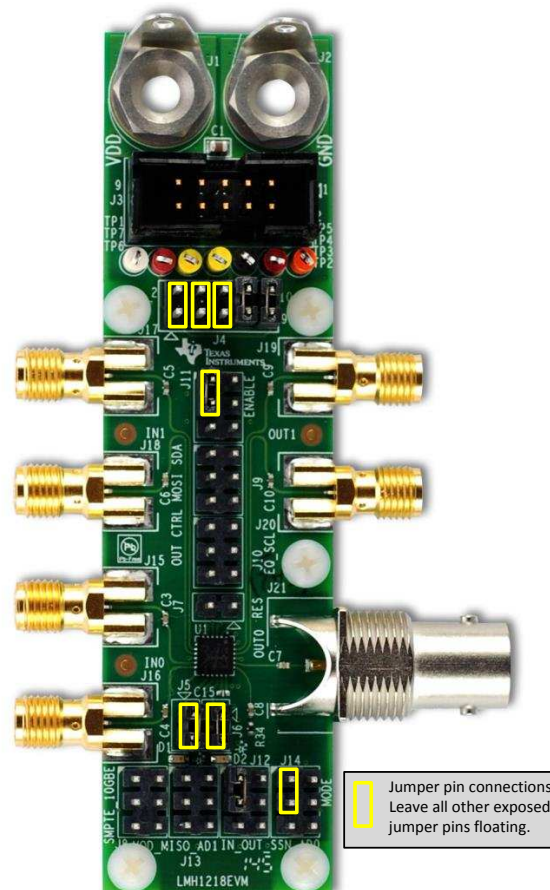
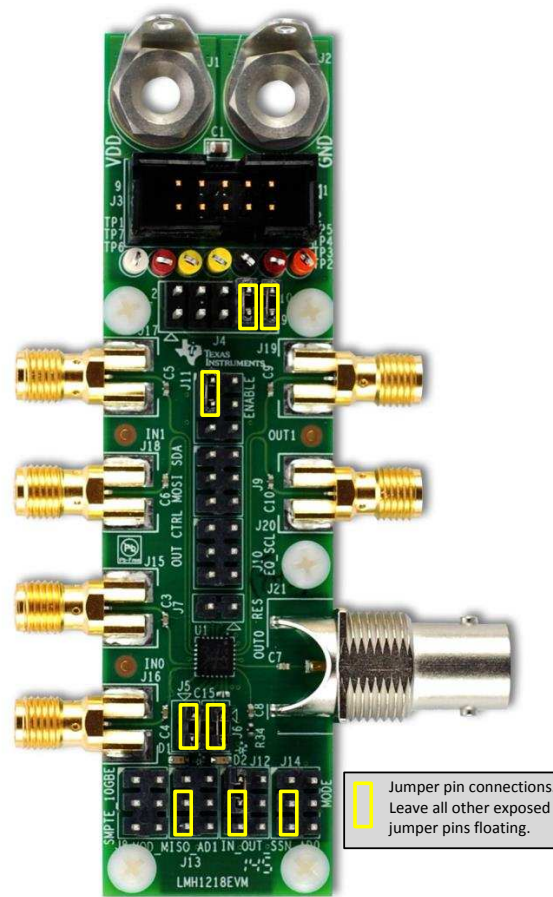

Figure 5. Jumper Pin Configuration for SPI Mode
Figure 6. Jumper Pin Configuration for SMBus Mode
- The jumper configuration for SPI and SMBus mode can be seen in Figure 5 and Figure 6, respectively.